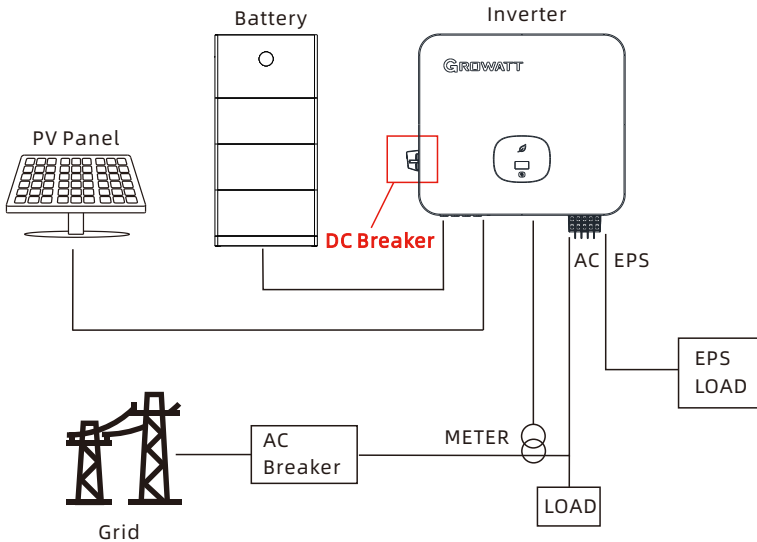

Figure 5.1 System block diagram
Step 2: Turn on the DC switch of the inverter(Figure 5.1).
Step 3: Turn on the circuit breaker connecting the inverter to the grid(Figure 5-1).
- Step 1: Turn off the circuit breaker connecting the inverter to the grid(Figure 5.1).
- Step 2: Turn off the DC switch of the inverter(Figure 5.1).